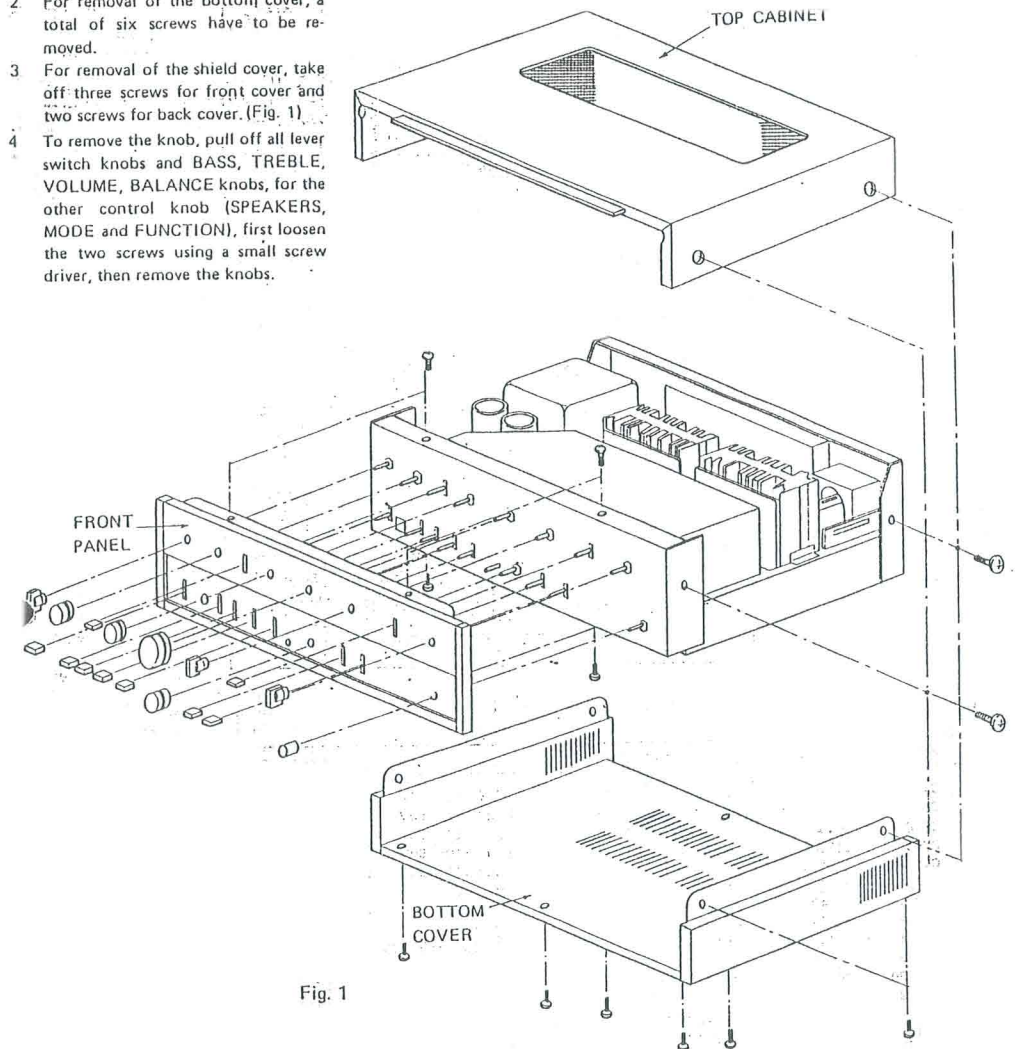

Fig. 1
3. For removal of the shield cover, take off three screws for front cover and two screws for back cover. (Fig. 1)